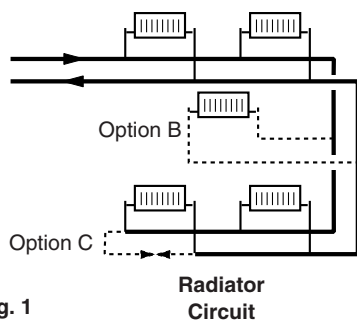
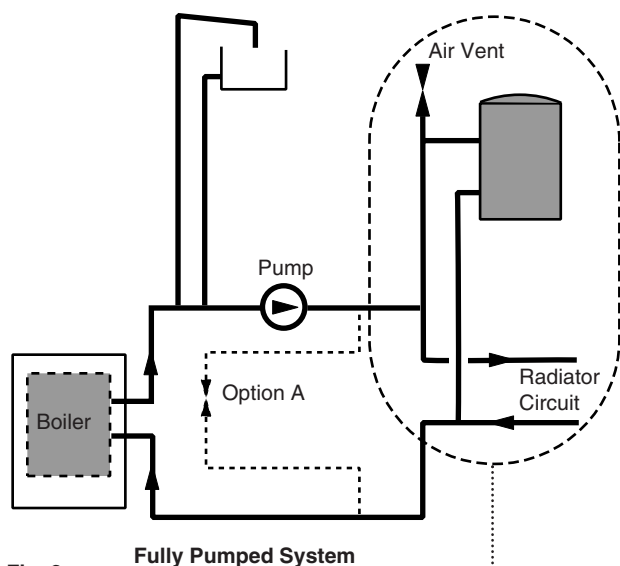

Fig. 1
Fig. 2
NOTE: For 'S' Plan systems the bypass flow circuit must be situated between pump and zone valves as option A shows (Fig. 2).
- a) For all boilers a minimum of 6 metres of 22mm copper pipe, (measured between the boiler flow and return connections). It should be fitted with a lock shield valve opened at least 1 full turn or a proprietary bypass valve set to give a minimum flow rate of 8 litres/min (1.8 gal/min) (Option C, Fig. 1 & Option A, Fig.2).
- b) A radiator fitted with lock shield valves. The radiator output should be a minimum of 800 watts (2,700 Btu/h). Typically a convector type radiator with an area of 3750 cm² (4 sq ft) is adequate (Option B, Fig. 1).
- c) Any circuit that provides the same operating conditions as option A or option B (Figs. 1 & 2).